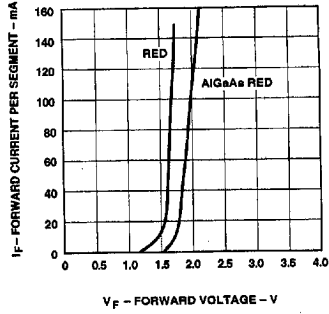

Figure 4. Forward Current vs. Forward Voltage.
- See Figure 4 to establish pulsed conditions.